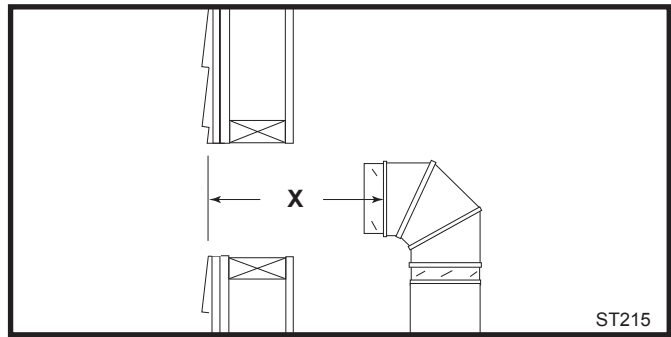

Fig. 26 Measure the horizontal length.
7. Measure, and cut if needed, the appropriate length of pipe section needed to make the connection through the wall. Include a 2" overlap; i.e. from the elbow to the outside wall face, about 2" or the distance required if installing a second 90° elbow. (Fig. 26)